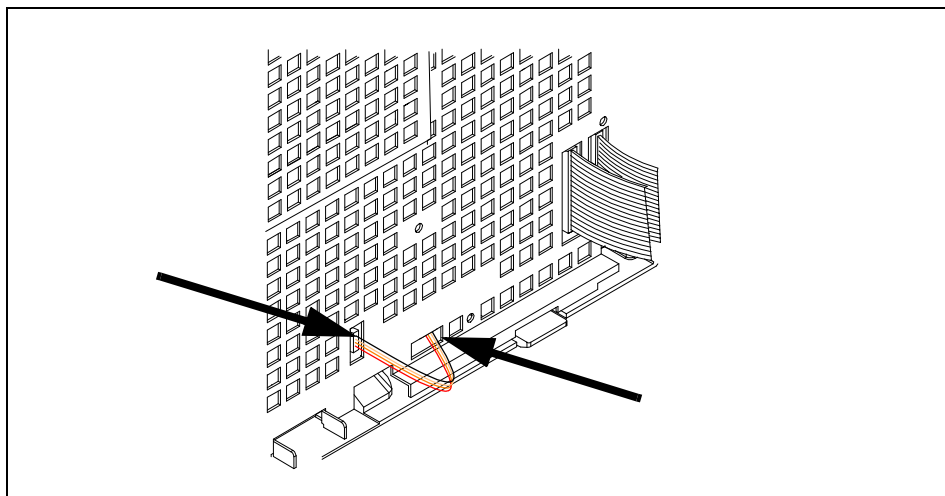

Fig. 3-16 ID Chip Connector and Cable
- 2) Unplug the 4-pin ID chip connector from the Processor Board, near the bottom of the metal RFI shield, and feed the connector and cable back through the rectangular access hole in the shield. See arrows in section of RFI shield shown in Fig. 3-16.
- 4) Route the ID chip cable connector through the rectangular slot at the bottom of the metal RFI shield (see Fig. 3-16), and plug the connector into the processor board.
- 4) Unplug the 4-pin ID chip connector from the Processor Board, near the bottom of the rear housing (see Fig. 3-16), and feed the connector and cable back through the rectangular access hole in the RFI shield.
- 9) Route the ID chip cable connector through the rectangular slot at the bottom of the metal RFI shield (see Fig. 3-16), and seat the shield on the Processor Board Subassembly.